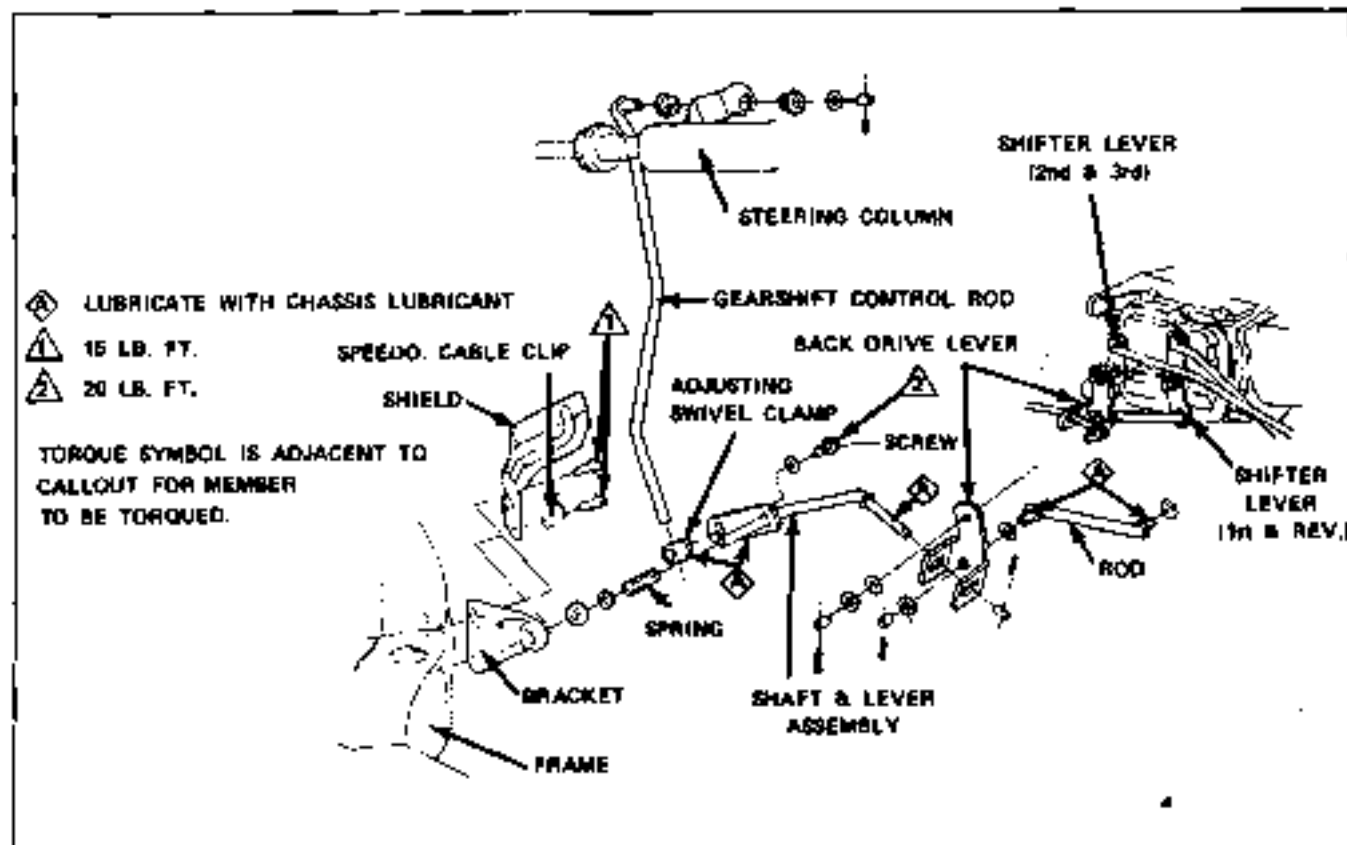

Fig. 7B-5A Tempest Back Drive Linkage
case (Fig. 7B-14). Remove countergear and two (2) tapered thrust washers.